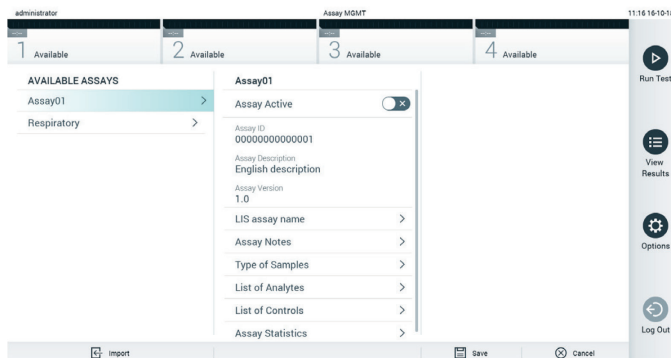

Figure 55. Assay management screen.
2. To import the new assay(s) to the QIAstat-Dx Analyzer 1.0, press the **Options** button and then the **Assay Management** button. The **Assay Management** screen appears in the content area of the display (Figure 55).